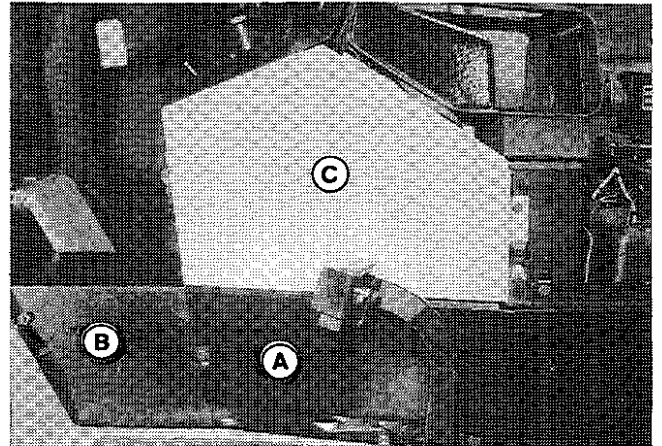

Figure 2.
- Remove the tractor lower side panel (A, figure 2) on right-hand side by removing four screws.
- Remove the tunnel cover (B) by removing two screws at rear and loosening left front screw.
- Remove upper side panel (C) by removing three screws. Retain the hood catch for reassembly.